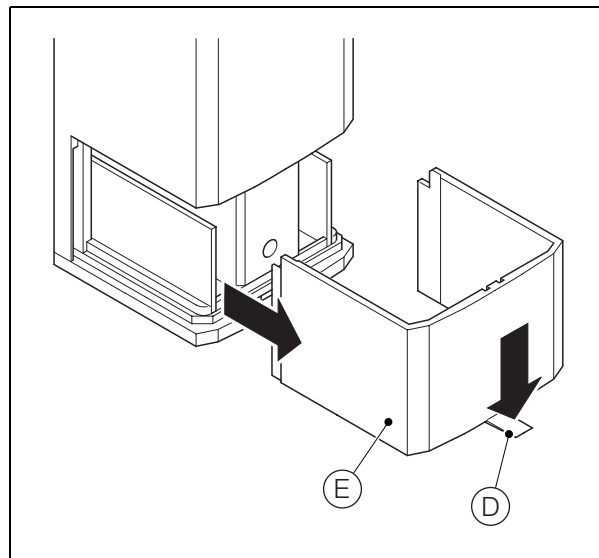
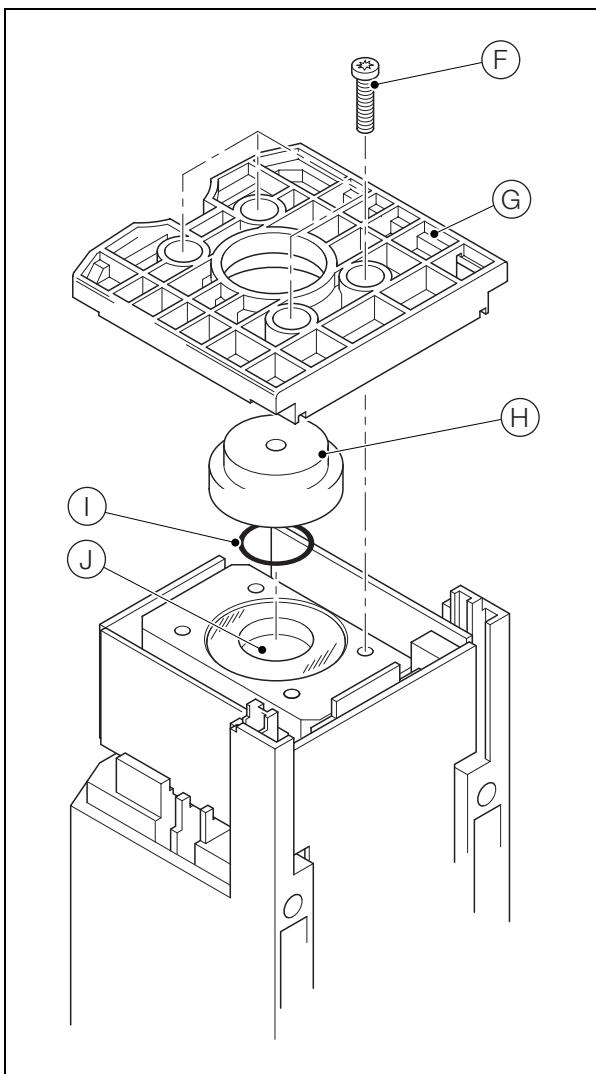

Fig. 12.10 Removing the Measurement Cell Cover
Fig. 12.11 Removing the Measurement Cell Base Plate
3. Referring to Fig. 12.10, depress catch (D) and remove cover (E).
4. Referring to Fig. 12.11,
- a. Invert the measurement cell assembly, remove the four screws (F) and remove the base plate (G).
- b. Remove the sample tube end face sealing cap (H) and remove seal (I). Discard the seal.
- c. Remove all traces of fluid from inside the sample tube (J).
12. Referring to Fig. 12.11,
- a. Fit a new O-ring (I) to end cap (H), ensuring it is located correctly in the groove in the end cap.
- b. Invert the measurement cell assembly and position end cap (H) over the end of the sample tube (J).
- c. Refit base plate (G) ensuring that the end cap is centered in the hole in the base plate. Secure the base plate with the four screws (F).
13. Referring to Fig. 12.10, refit cover (E).